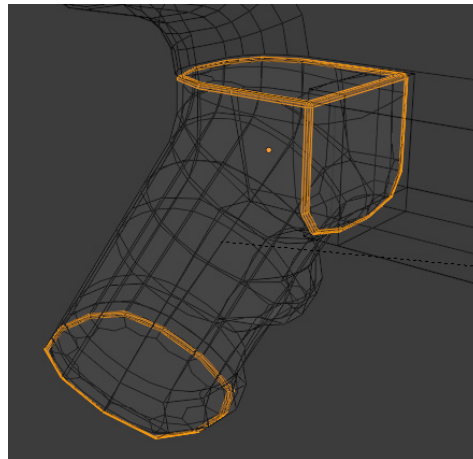

Figure 3.11 – Beveling flat faces
8. Add bevels to the flat faces at the bottom, top, and front of the handgrip, as shown in *Figure 3.11*.